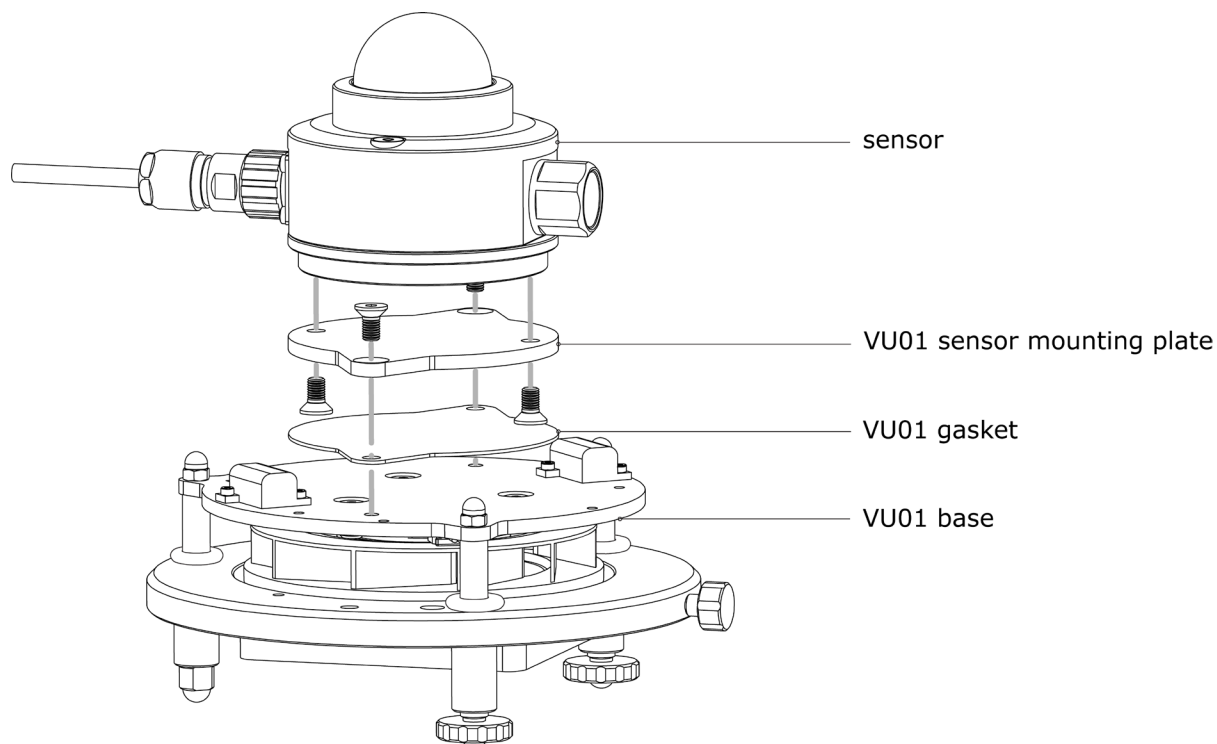

Figure 5.2.1 VU01 base with gasket, sensor mounting plate and SR20 pyranometer: the instrument is affixed to VU01 using four M5x10 screws.
- attach the sensor mounting plate to the bottom of the sensor using two M5x10 screws (See Figure 5.2.1). A T25 torx key to do so is included with VU01
- affix the sensor with the sensor mounting plate to the ventilation unit using two M5x10 screws (See Figure 5.2.1 for placement of the gasket)